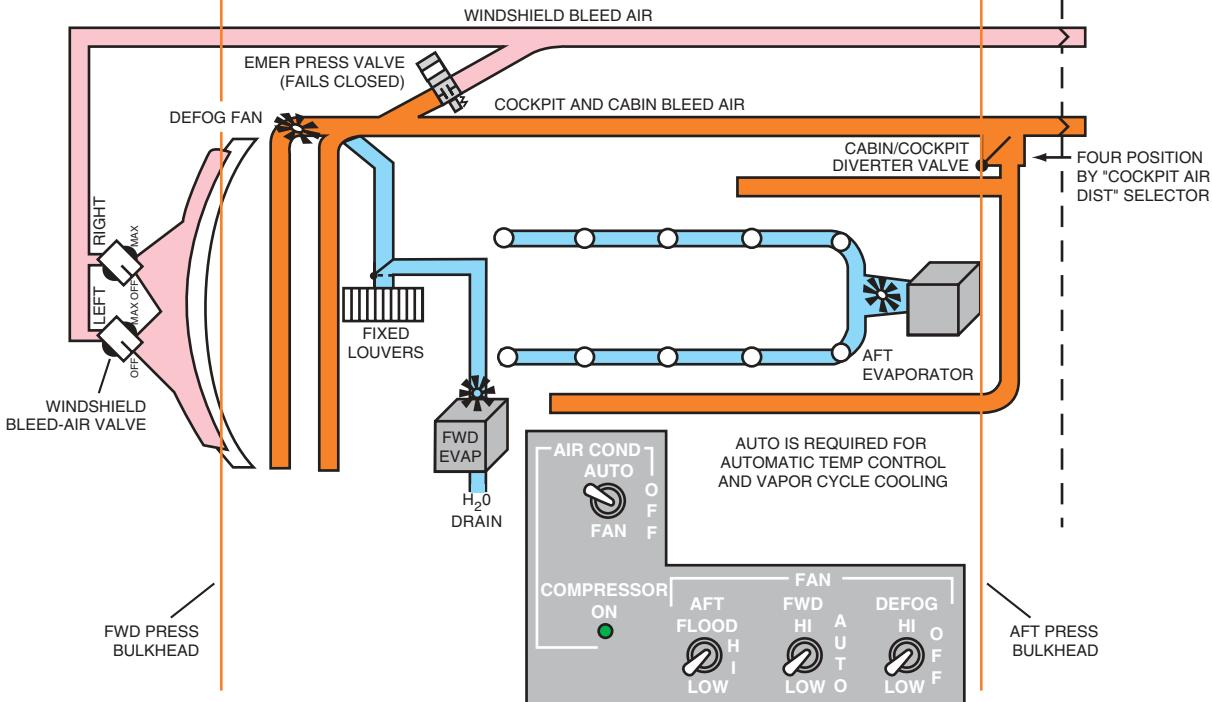

Figure SR-31 Cabin/Cockpit Distribution
- Normal DC power required and 23-psi air/vacuum for AUTO and ISOBARIC MODE operation (Figure SR-31).